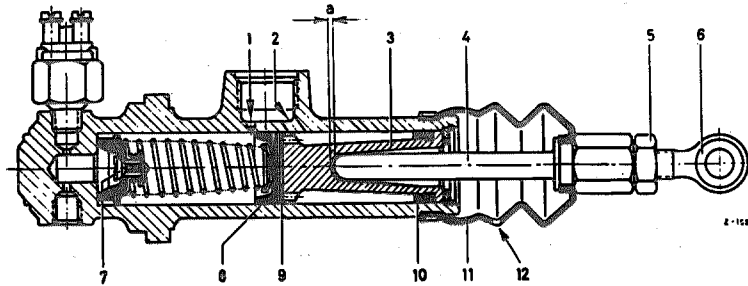

Fig. 42 — 3/1
5. Remove the cotter pin from the collar pin (21); then pull the collar pin out of the brake pedal and the piston push rod end (see Fig. 42 — 4/1).
6. Unscrew the hexagon nuts (17) from the two fixing bolts (15) of the brake master cylinder
at the chassis base panel bracket and remove the brake master cylinder (see Fig. 42 — 4/1).
- 12. Loosen the hexagon nut (5) on the piston push rod end (6) (see Fig. 42 — 3/1).
rod (4) and piston (3) of  $a \approx$  approx. 1 mm (see Fig. 42 — 3/1).
**Note:** When turning the push rod (4) make sure that the boot (11) remains stationary because the vent hole (12) in the boot (11) must face downward.
- 13. Tighten the hexagon nut (5) on the push rod end (6), holding the push rod (4) steady with wrench SW 19.
**Note:** Accurate adjustment of this clearance is of the utmost importance for the efficiency of the brake system; if the clearance is not correct, the primary cup (8) will cover the compensating port (1) in the brake master cylinder even if the cylinder is in the released position. When the compensating port is covered, the brake fluid which under the influence of heat increases in volume cannot flow back into the fluid reservoir. The result will be a constant dragging of the brake shoes.